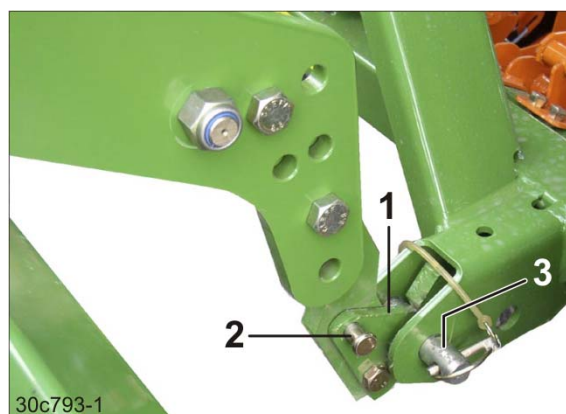

Fig. 103
2. Release the locking straps (Fig. 103/1).
- 2.1 Remove the pins (Fig. 103/2).
5. Engage the lower pivot points (Fig. 103/3) of the seed drill using the catch hooks.
7. Swivel the locking straps (Fig. 103/1) and secure each with a pin (Fig. 103/2). Secure the pins with linch pins.